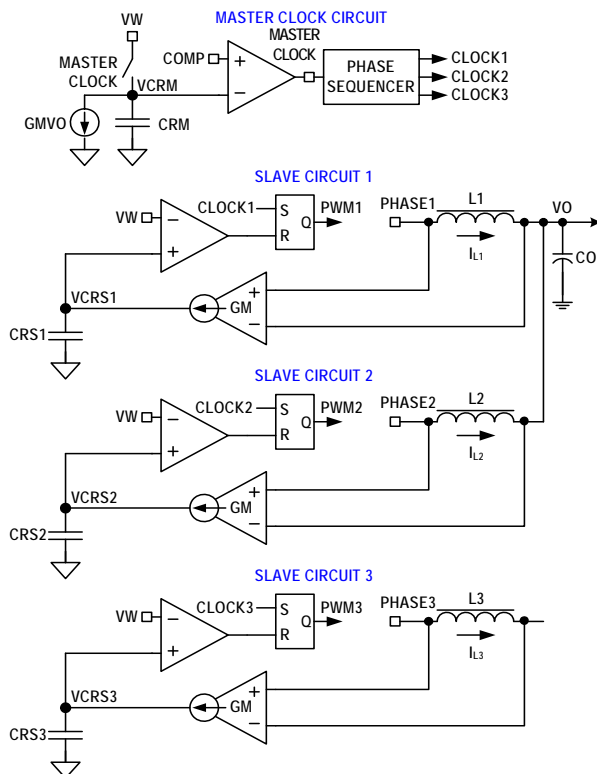
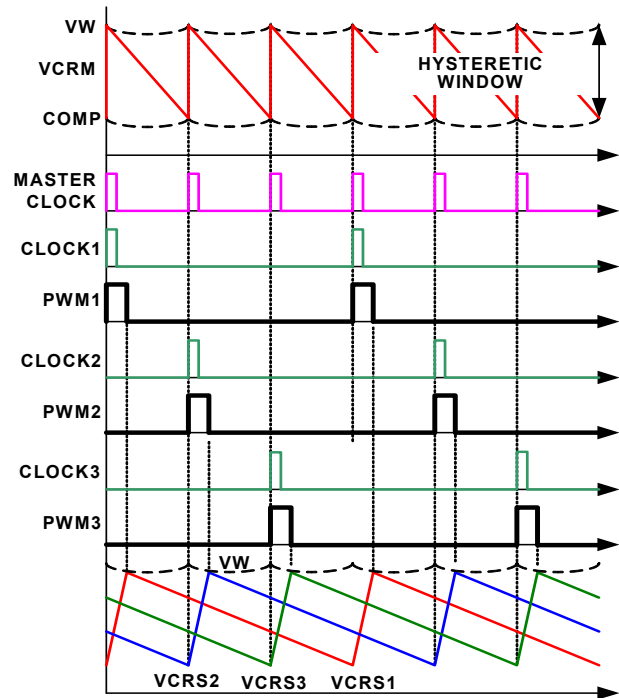

FIGURE 9. R3™ MODULATOR CIRCUIT
FIGURE 10. R3™ MODULATOR OPERATION PRINCIPLES IN STEADY STATE
The ISL6277A is a multiphase regulator implementing two voltage regulators, CORE VR and Northbridge (NB) VR, on one chip controlled by AMD's SVI2 protocol. The CORE VR can be programmed for 1-, 2- or 3-phase operation. The Northbridge VR can be configured for 1- or 2-phase operation. Both regulators use the Intersil patented R3™ (Robust Ripple Regulator) modulator. The R3™ modulator combines the best features of fixed frequency PWM and hysteretic PWM while eliminating many of their shortcomings. Figure 9 conceptually shows the multiphase R3™ modulator circuit, and Figure 10 shows the operation principles.